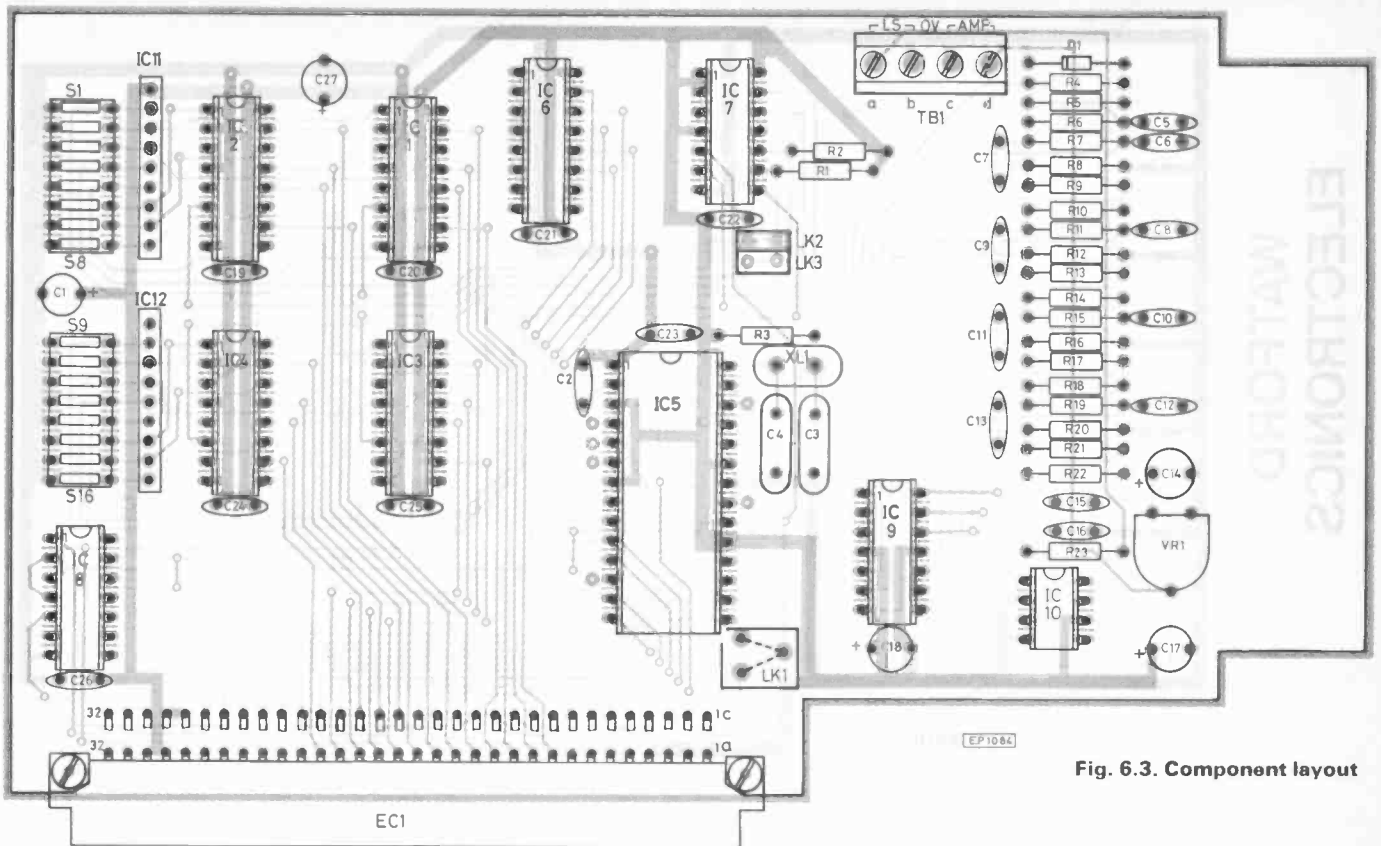

Fig. 6.3. Component layout
Refer to the overlay (Fig. 6.3) for details of component placement. This board has many discrete components (mainly used in the filter).
- 3) Set the switches according to this binary pattern ie. if bit 0 (the least significant bit) is 0 then close switch (shown in the overlay, Fig. 6.3, and on the board itself).